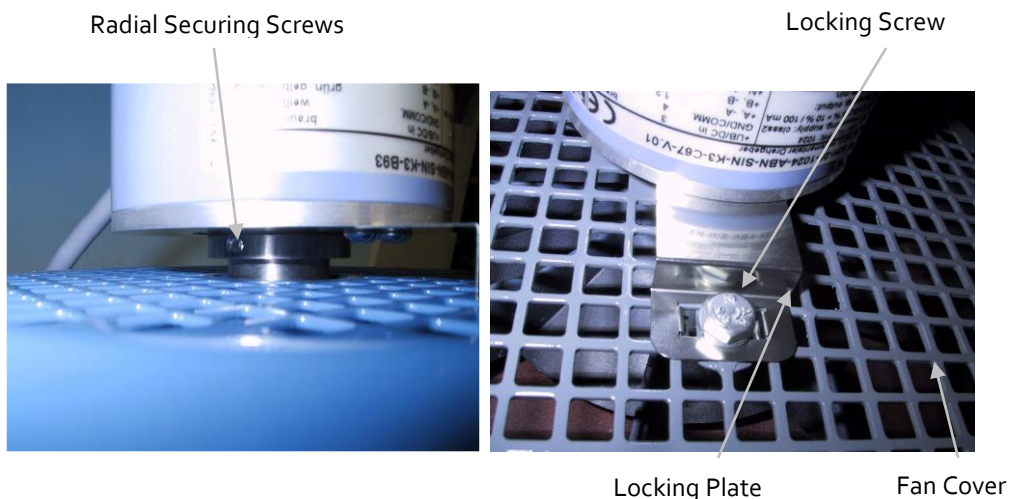

Fig. 27: Securing the Incremental Encoder Fig. 28: Incremental Encoder Support
- Loosen the two Radial Securing Screws that can be found under the Incremental Encoder (Ref. Fig. 27).